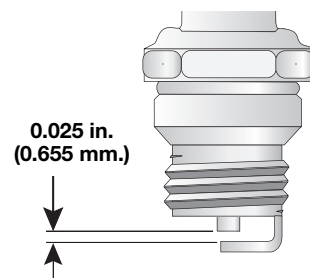

Fig. 55
4. Replace cracked, fouled or dirty spark plug. Set the air gap at 0.025 in. (0.655 mm.) using a feeler gauge (Fig. 55).